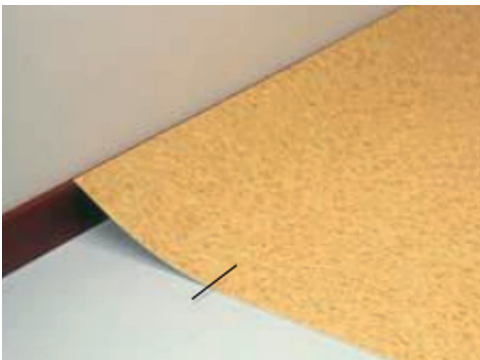
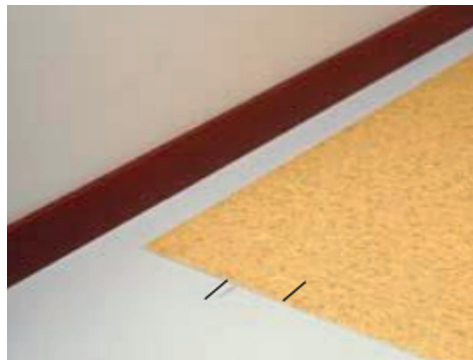
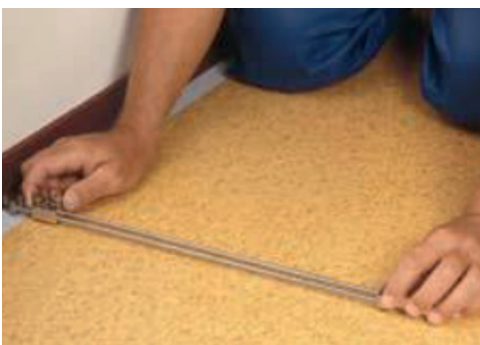

Fig. 1
Fig. 2
Fig. 3
Place a ruler or straight edge, at right angles to the sheet. Across the edge of the sheet draw a cross check on both material and subfloor (Fig. 1). Fold one end of the sheet back on itself, pull the other end clear by about 25mm from the wall (fig.2). Position the sheet to lie flat on the floor, with the edge true to the guide line (B). Set the bar scriber at the distance that the cross check has opened up (fig. 3).